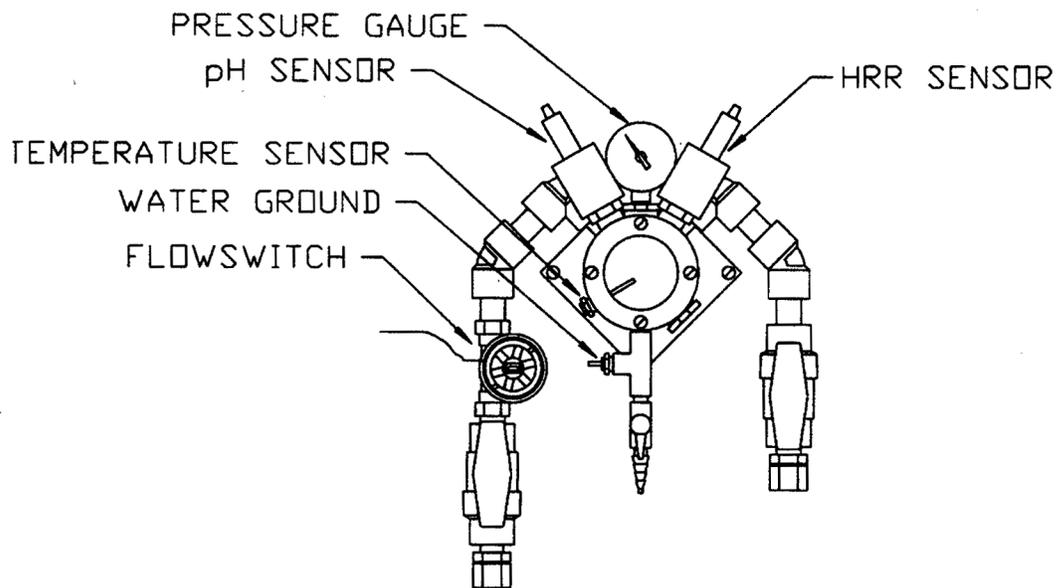

Fig 2.1
- Install the Paddlewheel Flow Switch in the sample stream. Make sure you only wrap the male fitting three times with Teflon[®] tape so as not to risk breaking the female fitting on the Paddlewheel Flow Switch. (Fig 2.1)
- Screw pH, HRR and Temperature sensors into flowcell. (Fig 2.1)